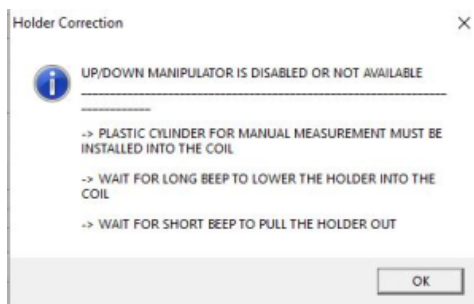

Figure 36: Warning box when up/down manipulator is disabled
- b. If the Up/Down manipulator is disabled, a warning box will appear notifying the user to insert the white plastic cylinder into the pickup coils (Figure 36). Click **OK**. Click **START** and wait for a long beep, then manually insert the holder into the pickup coils so that it rests on the white plastic cylinder in the center of pickup coils. Remove the holder when you hear a short beep. The holder will need to be inserted and removed 3 times.